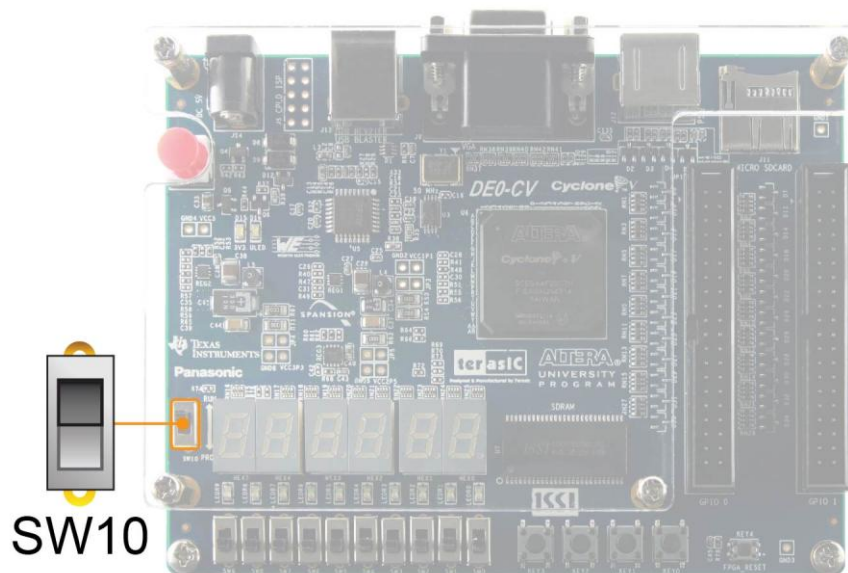

Figure 3-2 The RUN/PROG switch (SW10) is set in JTAG mode
- Configure the JTAG programming circuit by setting the RUN/PROG slide switch (SW10) to the RUN position (See **Figure 3-2**)